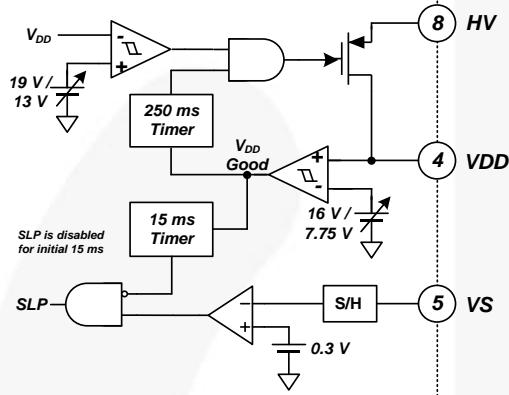
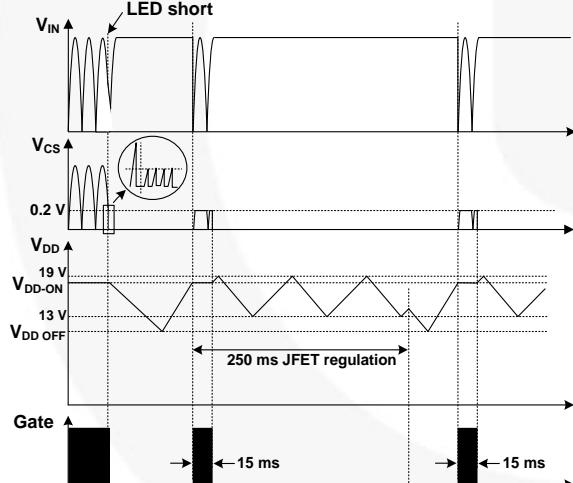

Figure 24. Internal SLP Block
Figure 25. Waveforms in Short-LED Condition
In case of a short-LED condition, the secondary diode is stressed by high current. When  $V_S$  voltage is lower than 0.3 V due to a short-LED condition, the cycle-by-cycle current limit level changes to 0.2 V from 1.0 V and SLP is triggered if the  $V_S$  voltage is less than 0.3 V for four (4) consecutive switching cycles. Figure 24 and Figure 25 show the SLP block and operational waveforms during LED-short condition. To set enough auto-restart time for system safety under protection conditions,  $V_{DD}$  is maintained between 13 V and 19 V, which is higher than UVLO, for 250 ms after  $V_{DD-ON}$ . SLP is disabled for an initial 15 ms to ensure successful startup in normal LED condition.